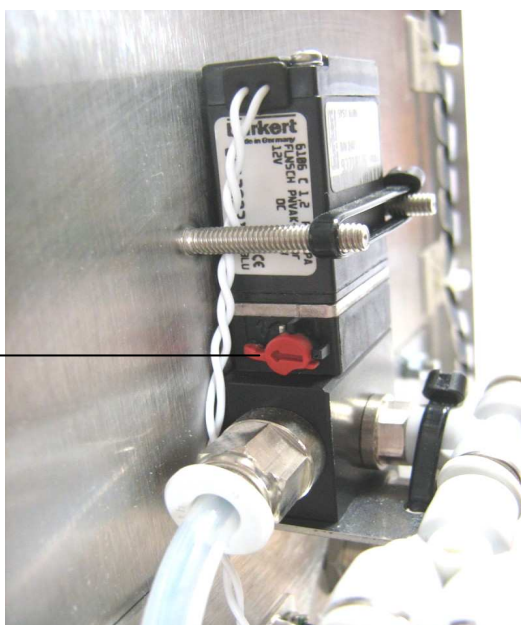

Figure 5-1: Gas Flow bypass Valve
- c) Turn the red button on the gas flow valve on the rear panel to bypass the valve (Figure 5-1).